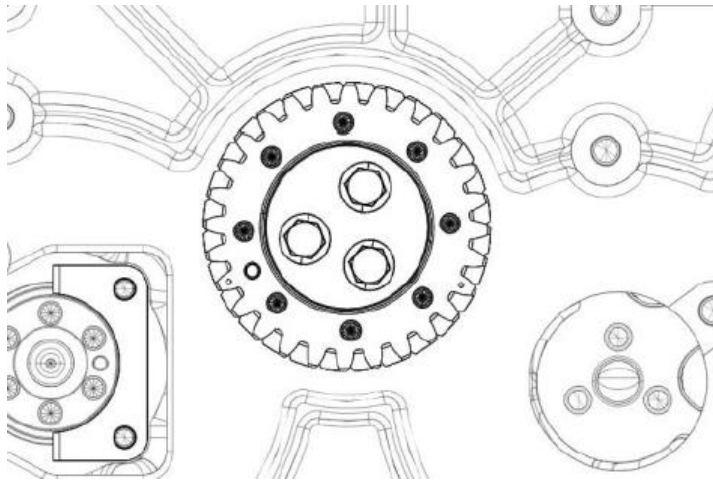

Figure 123.
2. Oil the idler gear (Figure 123) and install onto the engine block, insert the spacers with the bolts and torque the bolts to 52±5 lb-ft.